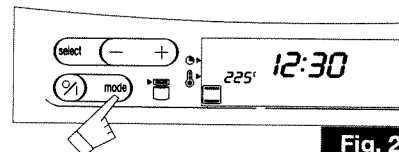

Fig. 2
2. Press the "mode" touch control, and press once until the type of cooking selected at a time appears. (For example "conventional") (fig. 2).